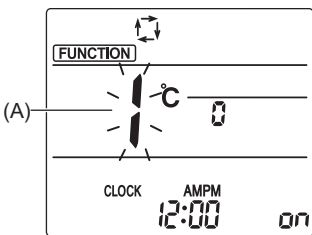

Fig. 6-11
1. Press the **MODE** button (1) to stop the air conditioner.
2. Press the **MENU** button (2) .
The Function setting screen will be displayed and the function No. (A) will blink. (Fig. 6-11)